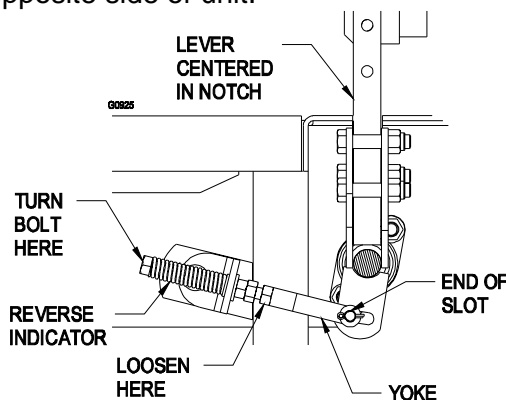

FIGURE 11
- c) Begin with either the left or right motion control lever. Move lever to the neutral position and pull lever back until the clevis pin (on arm below pivot shaft) contacts the end of the slot (just beginning to put pressure on spring), See Figure 11.